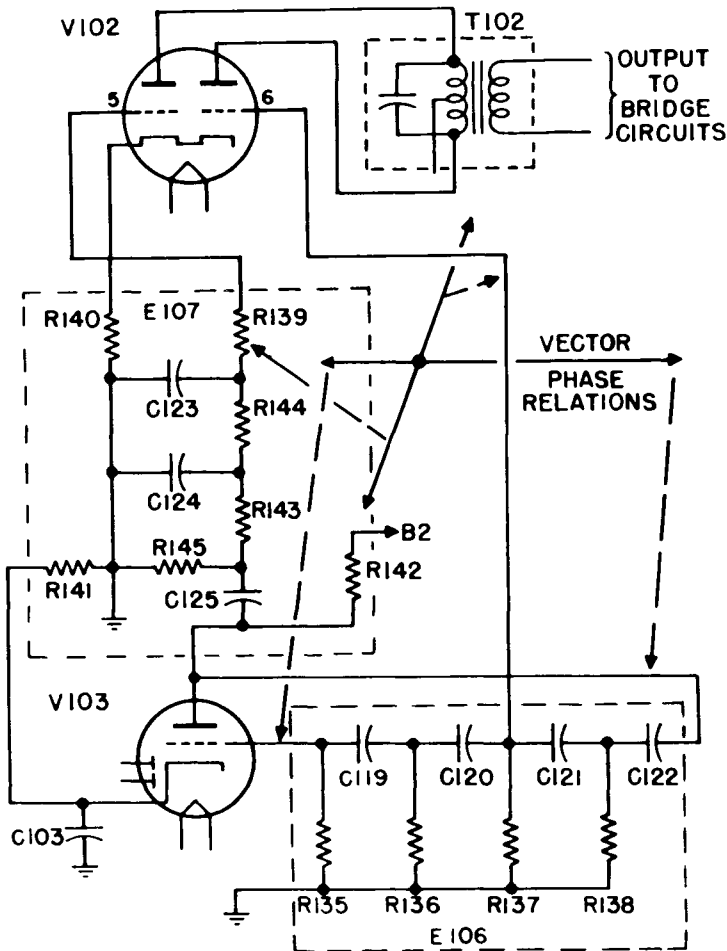

Figure 4-2. 1000 Cycle Generator.
b. In practice, the generator must have special properties, such as low admittance to ground, in order that the accuracy will be preserved when using high ratios of A to B. It must also have adequate output of good waveform, since, in some applications, the bridge cannot be balanced simultaneously at the fundamental and a harmonic. The method used in generating the 1000 cycle test current used in capacitance Inductance Resistance Bridge ZM-11/U is shown in Figure 4-2. Vacuum tube V103 is the 1000 cycle oscillator, V102 amplifies the output thereof and transformer T102 connects the amplifier output to the bridge circuits.